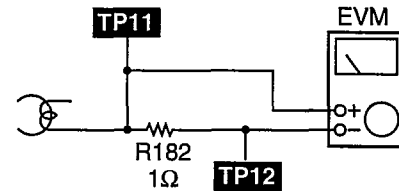

Fig. 12
1. Connect the measuring instrument as shown in Fig. 12.